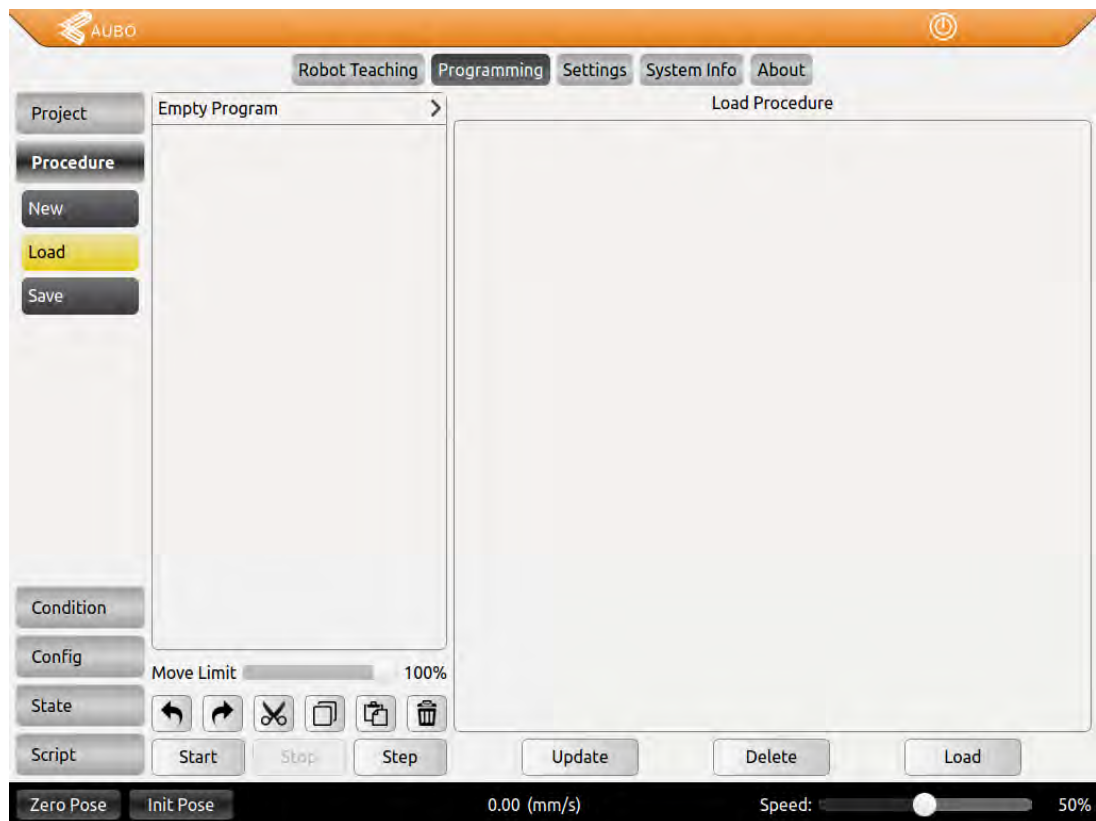

Figure 11.7 Procedure Project
- 1 Manually move mode can be taken when auto move is not suitable. As shown in figure 11.7,